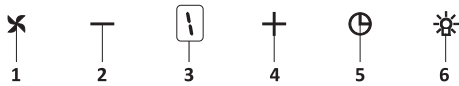

Fig. 20: 5 Spd Dig Button
1. Press this button to turn on the product. Fig. 20
2. Press this button to decrease the motor speed. Fig. 20
3. Dig display You can follow which speed the product is currently working on this display. Fig. 20
4. Press this button to increase the motor speed. Fig. 20
5. When timer button is pressed, a 15-minute timer function will be activated; display will give a signal once the timer starts and the motor will stop automatically after 15 minutes. Fig. 20
6. Press this button to turn on and off the lamp. Fig. 20